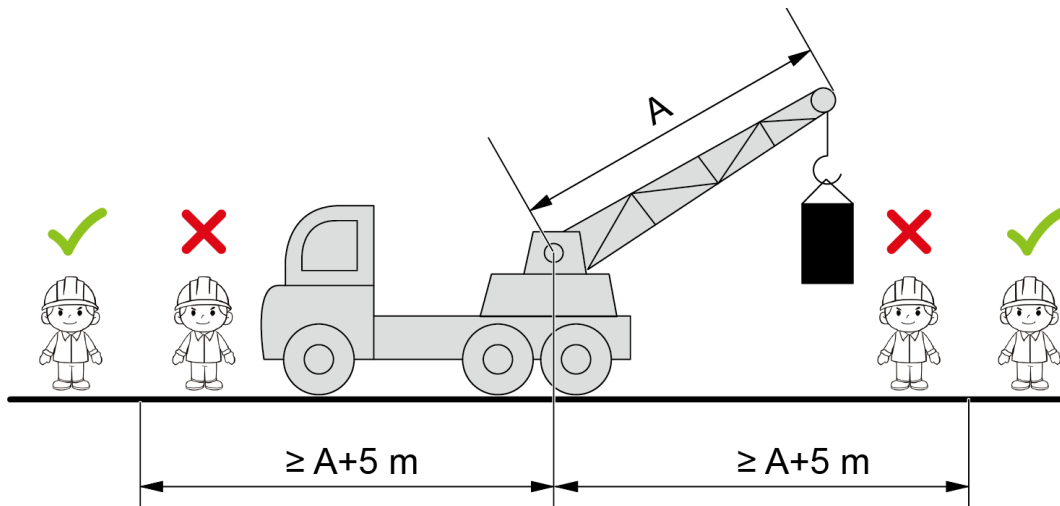

Fig. 3-1 Crane lifting
- Unauthorized personnel are strictly prohibited from entering the exclusion zone. As shown in Fig. 3-1, the radius must be $R \geq A + 5$ m. Standing or walking under the crane boom or the suspended load is strictly forbidden.